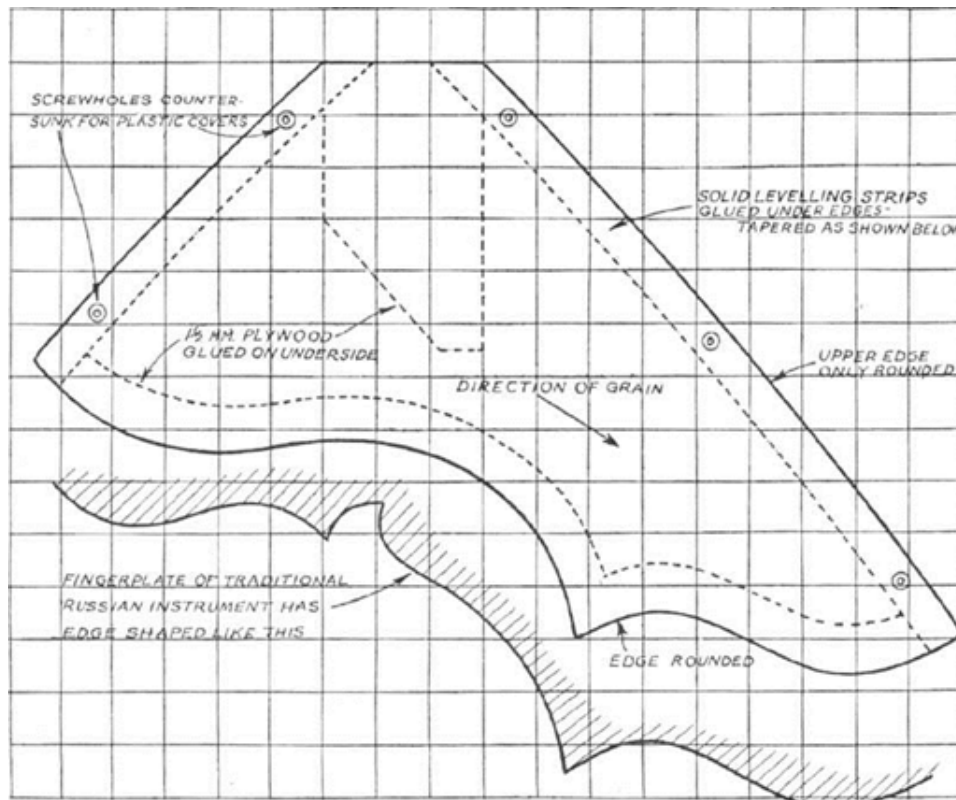

Fig. 2. PLAN OF FINGERPLATE WITH ALTERNATIVE SHAPED EDGES. Squared-off to represent half-inch squares.
The binding of the base edge is done in two parts, a gap of some 3 in. — or the width of the decorative tail-piece in the baseboard — being left in the centre. This space is filled by a piece of ivory, bone or hard white plastic which takes the pressure of the strings (see Fig. 1 and Part 1, Fig. 2). It is cut to shape with a fine-toothed saw, filed and glasspapered but need not be glued in place until after the instrument is given its final polish. At the same time the binding edges are gently rounded off with glasspaper.
**The Fingerboard** — In Part 2 I described the necessary materials for the fingerboard and fingerplate (or guard) and a study of Fig. 2, Part 1, will give you some idea of how these pieces are used. The neck part of the fingerboard is separate from the remainder, which is merely an extension of the frets which are set in the surface of the fingerplate. Fret No. 16 is set at the joint between the two parts. Generally, orchestral balalaikas are not fretted beyond this point, only solo instruments having twenty-four frets.